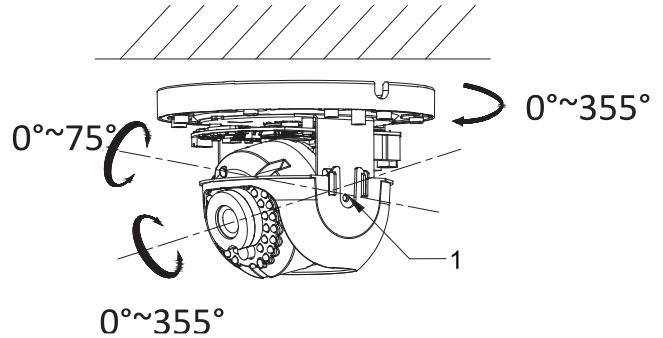

Figure 3: Camera adjustment in 3 axes; 1 – locking screw
The camera is designed to be used in an indoor and also an outdoor environment (IP67 rating), where it can be installed on the ceiling or on the wall. Camera lens adjustment is performed in 3 axes so it allows very simply installation at any position (see. Figure 3).
7. Fix the camera base to the mounting base using 3 metric screws using a Torx key. Mind the correct position of the camera; see the notch in figure 3.
8. Perform camera registration (see the chapter: Registration to a server) to obtain access to preview and align the camera in the required direction, allowed in three axes, see figure 3.